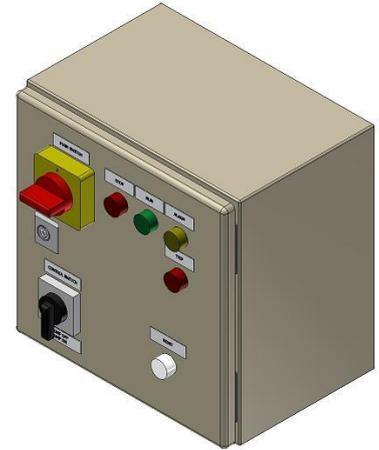

Figure 4.2-7
- Main power switch (red/yellow in Figure 4.2-7) is connected to the motor protection relay. Positions “0” (zero) and “1”. The contact breaker controls the main power to the HX-unit, including the HX control unit.
- Pump power switch (black and white in Figure 4.2-7), positions “0” (zero) and “1”. The contact breaker controls the power to the HX-unit pump (PU11). The pump can be started by turning the switch to position “1”, and stopped by turning it back to position “0”.
- LS11 leak sensor reset switch (white in Figure 4.2-7) resets the leak alarm. To reset the alarm, the liquid must first be removed from the sensor on the HX-unit leakage plate.